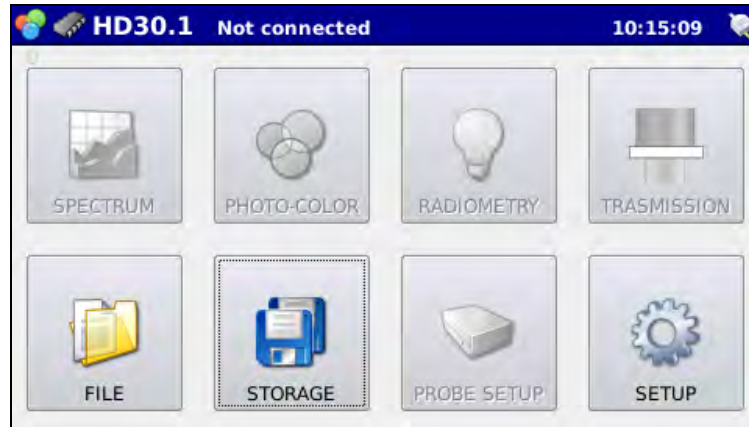

Fig. 4.1: STORAGE and FILE buttons allow measurements to be monitored and recalled.
the main screen (fig. 4.1)
4.4 Press  to return to the main screen (Fig. 4.1).
4.5 Press  in the main screen to display stored measurements (fig. 4.1). Pressing the button will open the fig. 4.11 window.